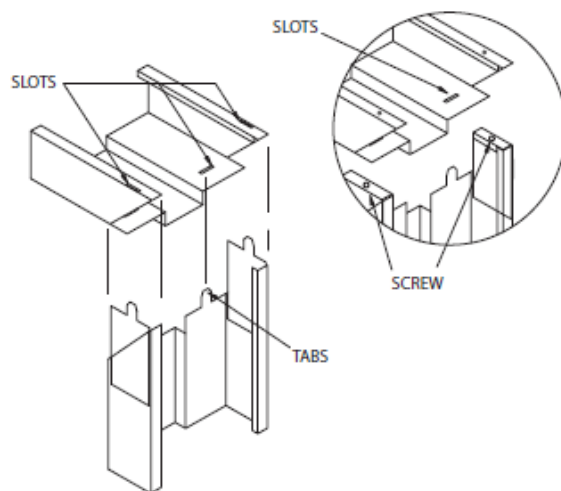

FIGURE 19B
4. Join the header to the jambs, Figure 19B. This is normally done by inserting tabs into the slots, or screws into the holes or a combination of both.